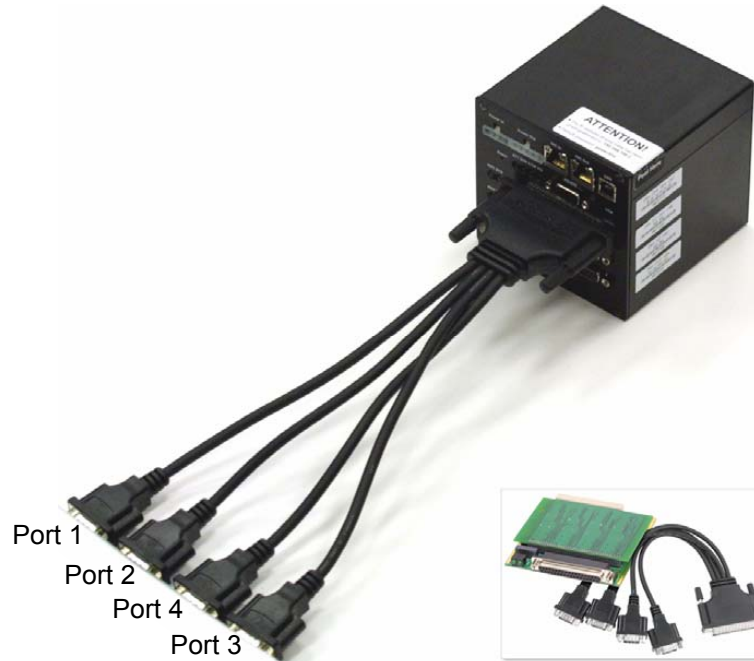

Figure 1-3. SL-501 with Cables
A DNA-CBL-COM (see **Figure 1-3**) from the 37-pin connector of the SL-501 provides four individual 9-pin ports, labeled by port as (1), (2), (3), (4).